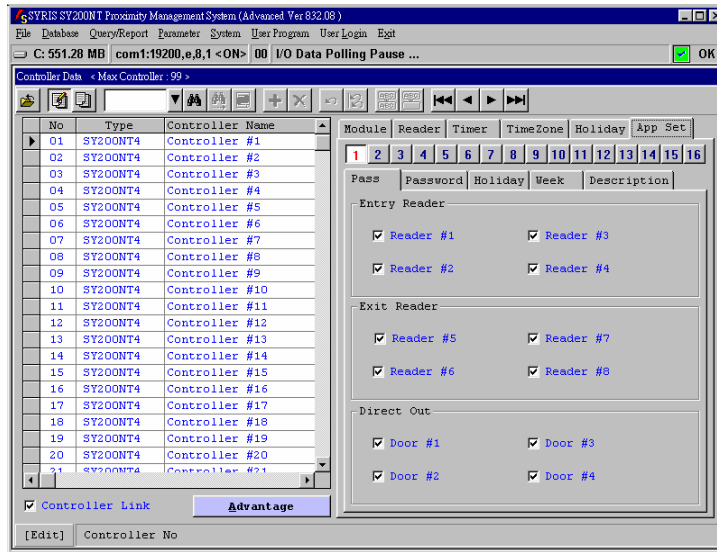

Fig.3-9 Application Set Setting
Click Sub-Menu "App Set"(Fig.3-9), setting of Application Set consists of the following:
1. Click sub-menu "Pass", as Fig.3-9.